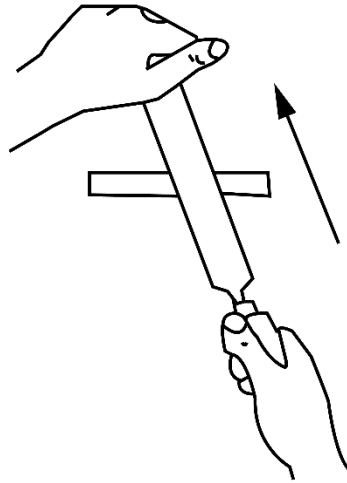

Fig. 8
- 10 Figure 8 below shows a filing method.